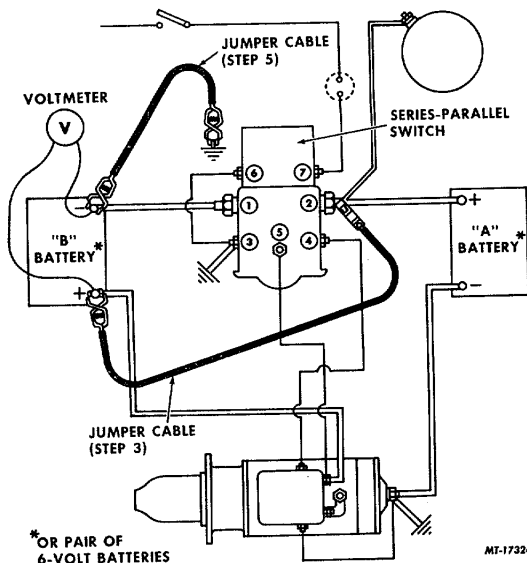

Figure 5 Voltmeter and Jumper Cable Connections for Checking Resistance in "B" Battery Charging Circuit
2. Connect voltmeter directly across terminals of "B" battery (or pair of batteries - Figure 5) and observe and note voltage reading.
3. Connect heavy jumper from No. 2 terminal of series-parallel switch to ungrounded (+) terminal of "B" battery (Figure 5) and observe voltmeter.
5. If only a very small voltage increase was obtained in Step 3, connect the jumper cable from the grounded (-) terminal of the "B" battery to a good ground on the engine (Figure 5) and again observe voltmeter.